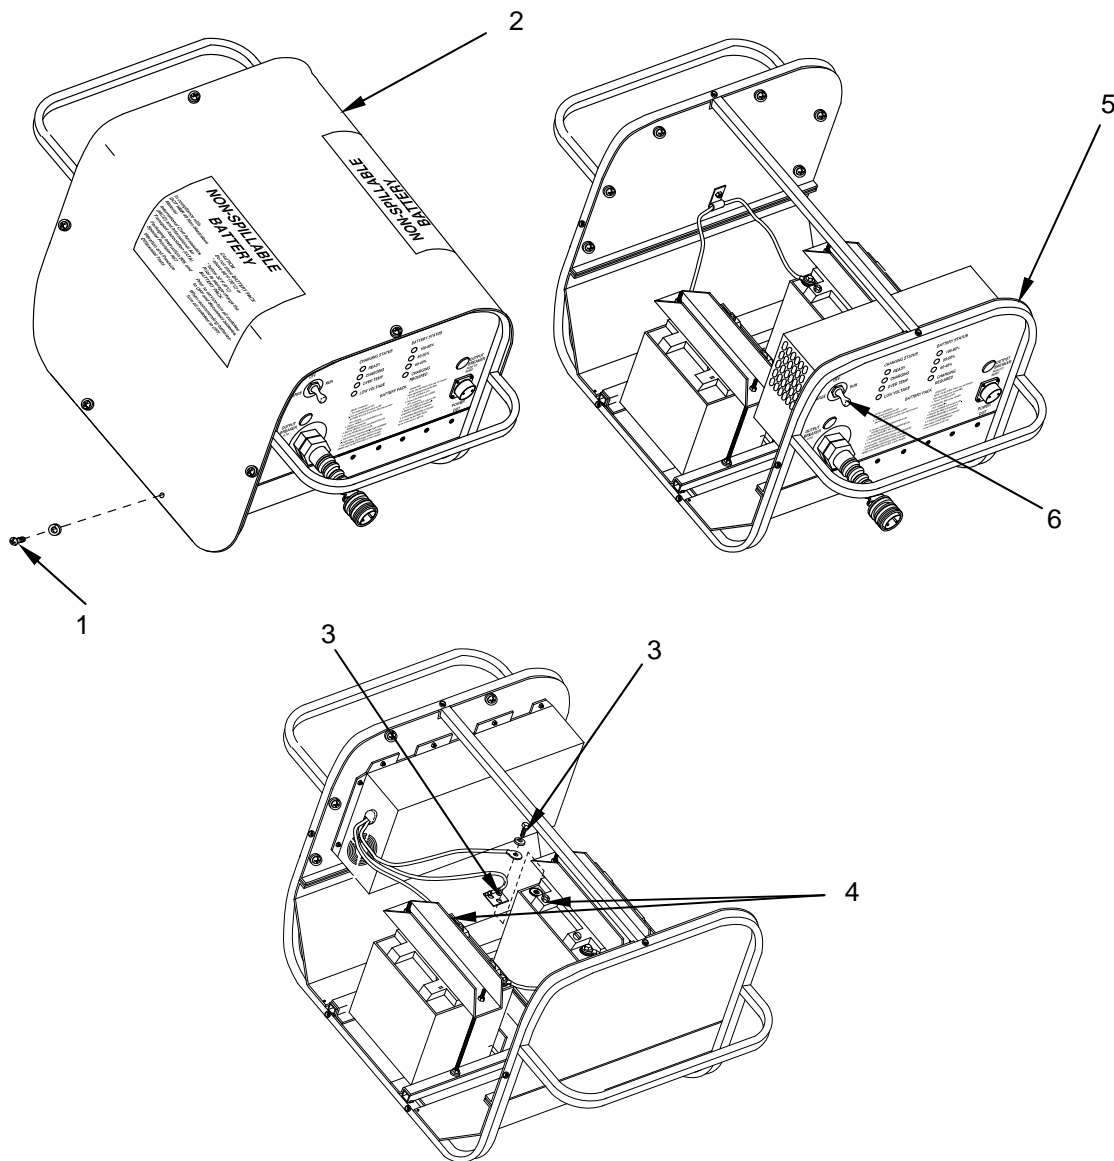

Figure 1. Test the Battery Charger.
1. Remove the fasteners (Figure 1, Item 1) retaining the battery pack cover (Figure 1, Item 2) and remove the cover. Retain the cover and fasteners for reassembly.
2. Tag and disconnect the battery charger wiring (Figure 1, Item 3) from the batteries (Figure 1, Item 4).
3. Use electrical tape to insulate the terminal end of each battery charger wire (Figure 1, Item 3). Leave the end open to allow access to the terminal.
4. Connect the battery charger (Figure 1, Item 5) to an approved power source, and set the 3-Position switch (Figure 1, Item 6) to "CHARGE."
5. Set a multimeter to read DC voltage, and check the voltage between the two charger wire terminals (Figure 1, Item 3). The charger (Figure 1, item 5) should deliver approximately 24 to 28VDC. Replace a charger with low or no voltage.
6. Disconnect the battery charger (Figure 1, Item 5) from the power source.
7. Remove the electrical tape from the wire terminals (Figure 1, Item 3), and connect the charger wiring to the batteries (Figure 1, Item 4) as tagged.
8. Install the battery pack cover (Figure 1, Item 2), and secure with the retained fasteners (Figure 1, Item 1).